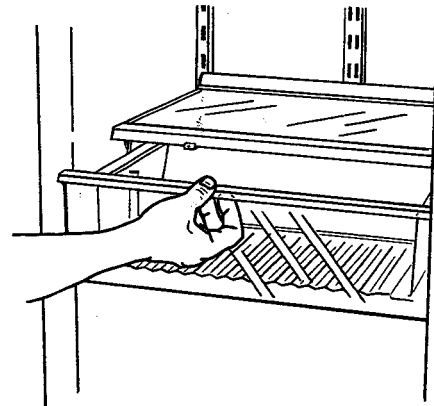

Figure 51
- To reposition meat keeper, pull drawer three-quarters out of sleeve. See Figure 51.